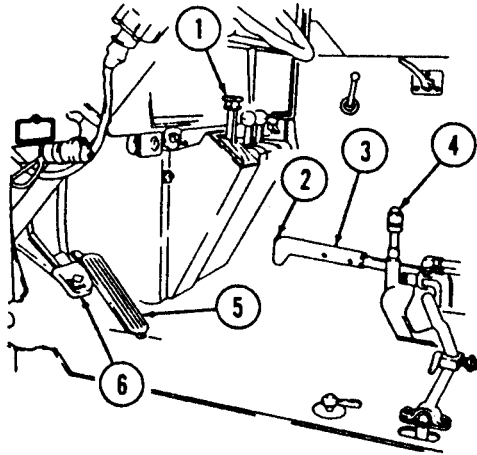

FIGURE 18-4. Tractor Interior.
- Release the parking brake lever (Figure 18-4). Place the transmission selector lever in reverse. Resume backing up.